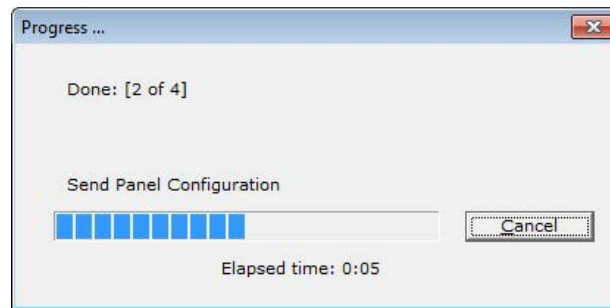
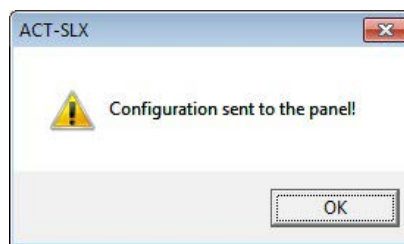

Figure 4-8. Send Configuration Progress
Figure 4-9. Send Configuration Complete
3. Select <OK>. In response, the progression of the configuration upload from the control unit is displayed (Figure 4-8). After the upload is complete, Figure 4-9 displays.
5. Select **<OK>**. In response, the progression of the configuration upload to the control unit is displayed (Figure 4-8). After the upload is completed, a notification (Figure 4-9) is displayed.